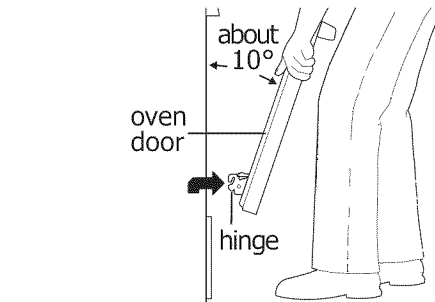

Figure 39: Holding door for removal
3. Firmly grasp both sides of oven door along the door sides. Do not use the oven door handle (See Figure 39).
5. Lift the oven door hinge arms over the roller pins located on each side of the oven frame (See Figure 39).
1. Firmly grasp both sides of oven door along the door sides. Do not use the oven door handle (See Figure 39).
2. Holding the oven door at the same angle as the removal position, seat the hook of the hinge arm over the roller pins located on each side of the oven door frame (See Figure 39 and Figure 40). The hook of the hinge arms must be fully seated onto the roller pins.